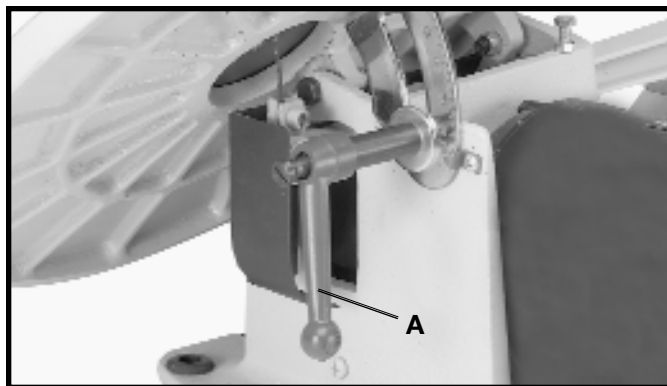

Fig. 30
The table on your scroll saw can be tilted 45 degrees to the left for bevel cutting operations by loosening table lock handle (A) Fig. 30, tilt the table to the desired angle and tighten lock handle (A).